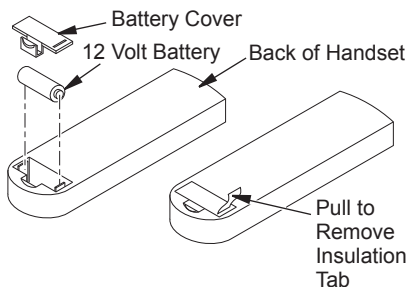

Figure 19 - Installing Battery into Back of Handset
- Activate remote handset battery by removing insulating tab on back of handset (see Figure 19). Battery is included preinstalled.